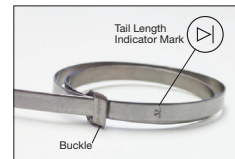

Fig. 3
- B. Pull on band until mark (▷) is within approximately .250 inch (6.4mm) of buckle slot (Figure 3). The band may be tightened further if desired.
NOTE: Prepared band should have this (▷) mark visible approximately where shown in Figure 3.